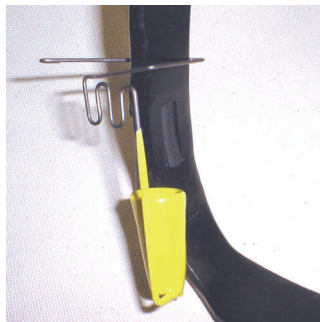

Fig. 1.
1. With the spring portion of the Gaff Guard on the inside (opposite of gaff side) of the climber slide the Gaff Guard over the shank of the climber as shown in Fig. 1.